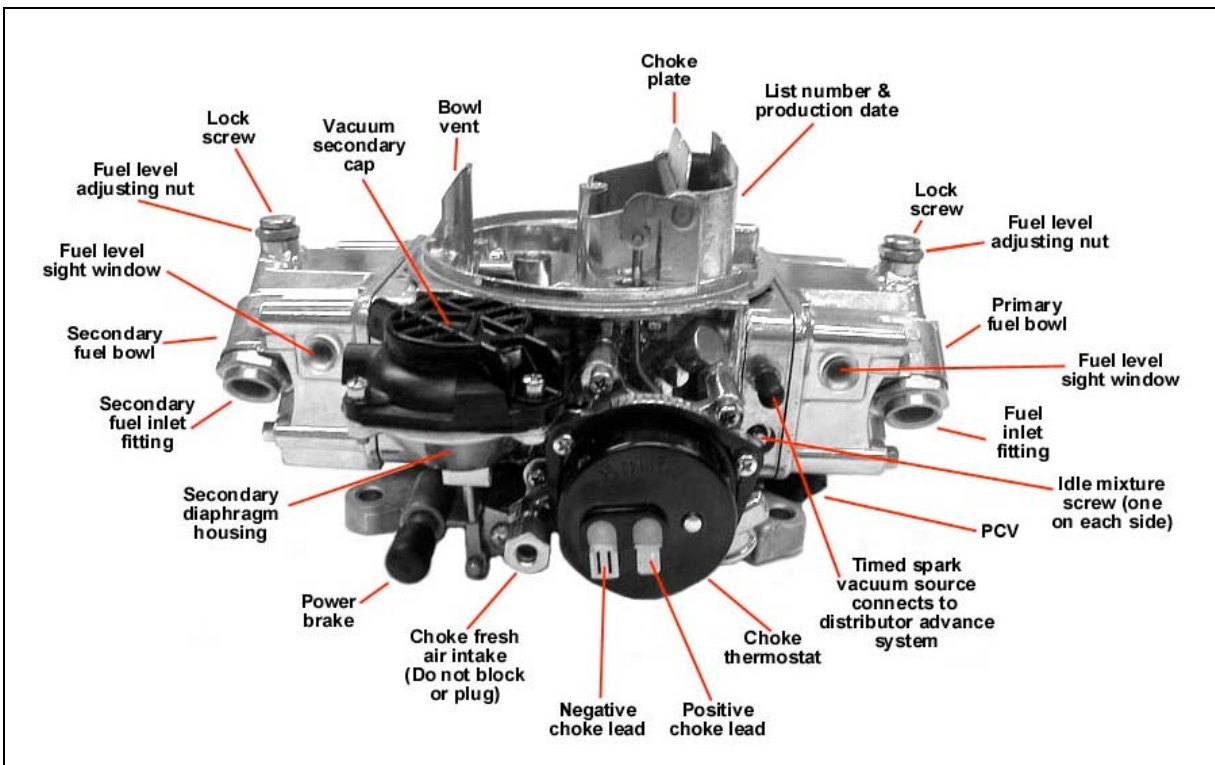

Figure 6
6. Reconnect the appropriate vacuum hoses to the carburetor, noting the correct fitting from Figure 6 and 8.
8. Connect the power brake hose to the fitting as shown in Figures 6 or 8.